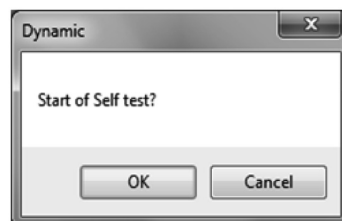

Fig.123
- ③ Click the "OK" button to display a message box (Fig. 123).